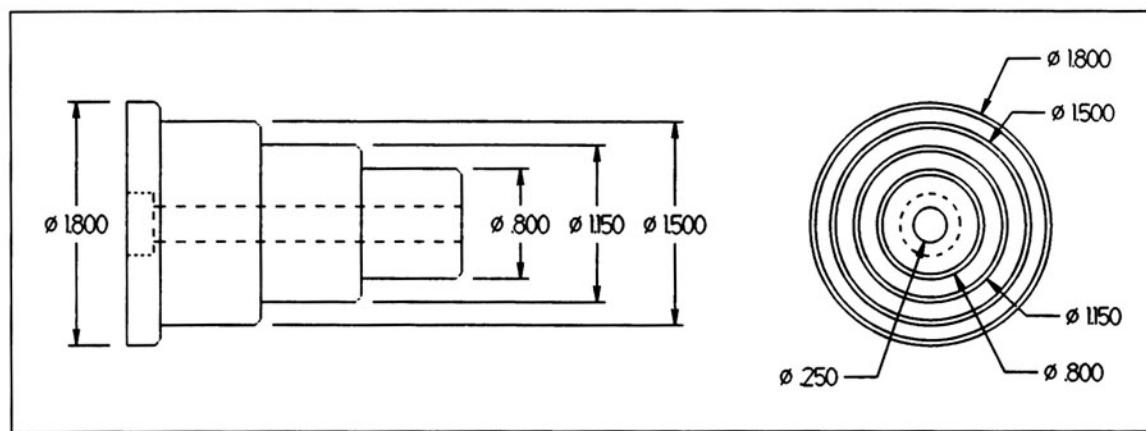

FIGURE 9-1 Diameters of this lathe part are easier to see from a side view drawing.
16. *Avoid getting too carried away with dimensioning circular features with leader lines. (See Fig. 9-1)*